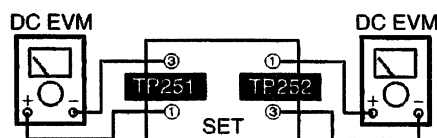

Fig. 1
1. Connect the measuring instruments as shown in Fig. 1.